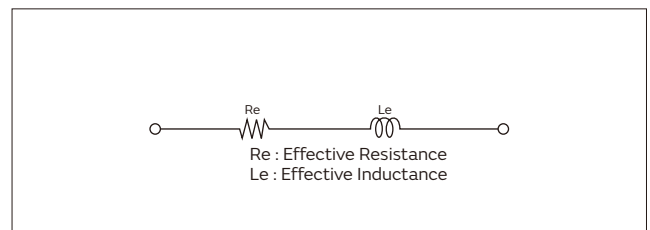

Fig. 2-4 Equivalent Circuit of CERALOCK[®] in the Frequency Band $F_r \leq F \leq F_a$
Considering the limited frequency range of $F_r \leq F \leq F_a$, the impedance is given as $Z = R_e + j\omega L_e$ ($L_e \geq 0$) as shown in Fig. 2-4, and CERALOCK[®] should work as an inductance L_e (H) having the loss R_e (Ω).